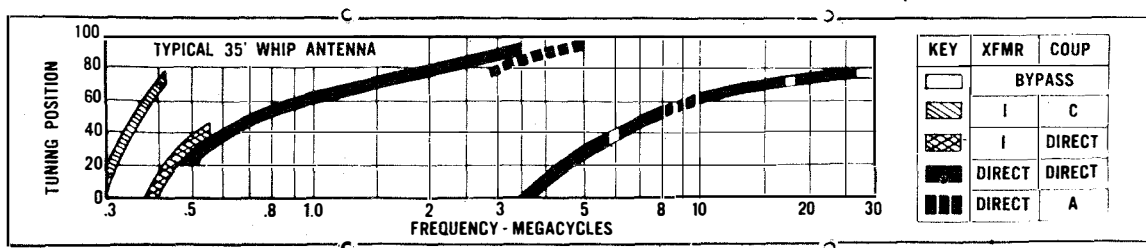

Figure 4-11. Tuning Chart on Radio Frequency Oscillator Front Panel
Step 1. Place STANDBY-OPERATE switch (PP) in STANDBY on LVPS and check LOCAL-REM switch (X) for LOCAL position.
Step 5. Set the BANDSWITCH (C) in the RFA to the band in which the selected frequency falls.
Step 6. Set the EXCITATION (Z) control in the RFA at its maximum clockwise setting.
Step 7. On the under side of the hinged flap, which is mounted on the door covering the frequency selection knobs on the RFO is a tuning chart (figure 4-11) used for presetting the controls on the control-indicator. If the tuning chart indicates BYPASS for the selected frequency, the ANTENNA TRANSFER (AE) control should be set to BYPASS, and no further tuning will be required on the control-indicator. For other frequencies, set the TRANSFORMER (AC) control and the ANTENNA COUPLER LOADING (AD) control to the positions indicated under the XFMR and COUP columns, respectively, of the tuning chart according to the frequency being transmitted. The (AE) control should be set to the TUNER IN position. Set SWR CALIBRATE (AB) control to 8:1.
Step 8. Set both the INPUT TAP (V) and the OUTPUT TAP (W) on the load adjusting unit to position 4.
Step 9. Place STANDBY-OPERATE (PP) switch in OPERATE.
Step 10. Throw the TEST KEY (T) on the LLRM to its locking position, which will energize a carrier.
Step 11. With the VOLTMETER-METER SELECTOR (J) in the RF IN position, the voltmeter reading should not exceed 5 volts. If it does, adjust the EXCITATION (Z) control to reduce the reading to 5 volts maximum.
Step 12. Loosen the dial lock of the TUNE IPA (B) control. Set the TUNE IPA (B) control for maximum output of the buffer and IPA stages. Maximum tuning of these stages is indicated by maximum PA grid drive as shown by a maximum reading on the PA CURRENT meter in the RFA with the PA-METER SELECTOR (H) in the I_{c1} position. In tuning, two peaks may be noted on the PA CURRENT meter. The TUNE IPA (B) control should be set to the peak at the lowest TUNE IPA dial reading to insure that the tuning is to the desired